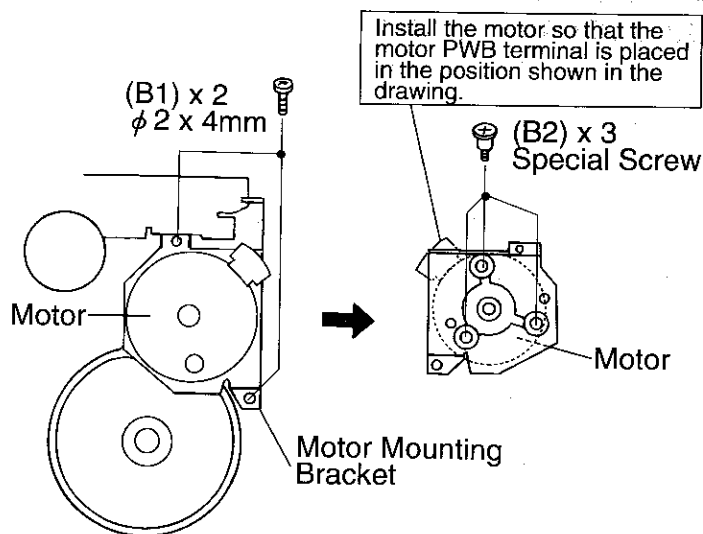

Figure 11-1
**How to remove the motor (See Fig. 11-1.)**